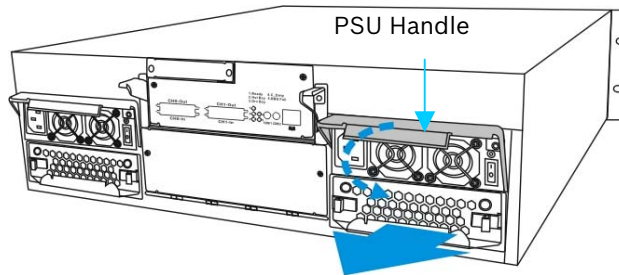

Fig. 6.13 Pressing Down the PSU Handle
- Remove the PSU module by pressing down the PSU handle found on the top of the PSU. (See *Figure 6.13*) This will dislodge the PSU module from the subsystem.